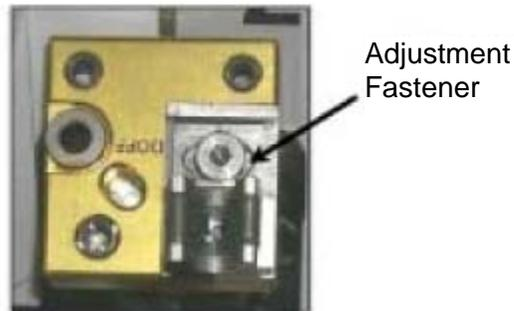

Figure 8.- K-BAR Capture Mechanism, Located on LAB Standoff.
Refer to Figure 8.
- * Refer to Figure 8.